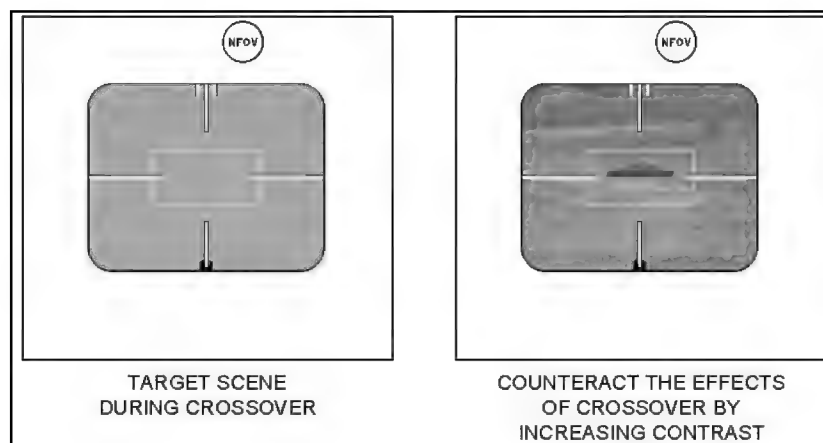

Figure E-32. Infrared crossover effects.
- Corrective action. The gunner can use this capability to overcome the effects of crossover by adjusting contrast and brightness. In addition, crossover will not occur for all parts of the target at the same time. Part of the target will always have a measurable ΔT between it and the background so the gunner can determine the target's location (Figure E-32).